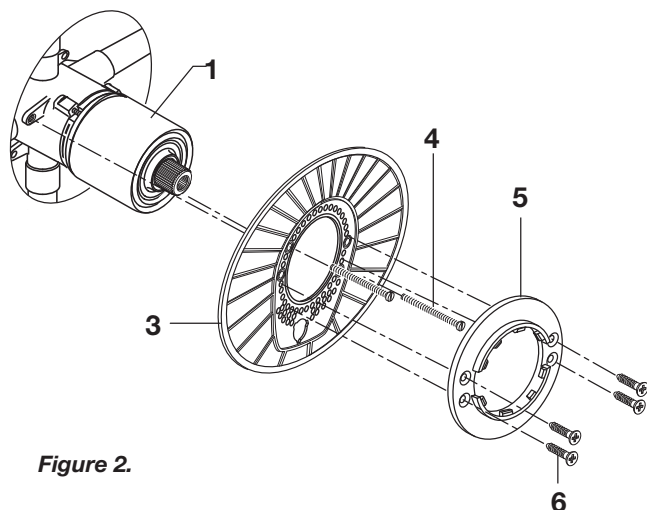

Figure 2.
- **Figure 2.** Push ESCUTCHEON HOLDER (3) onto CAP (1) and attach to valve body with LONG SCREWS (4). Mount ESCUTCHEON SUPPORT (5) to ESCUTCHEON HOLDER (3) with 4 SHORT SCREWS (6).